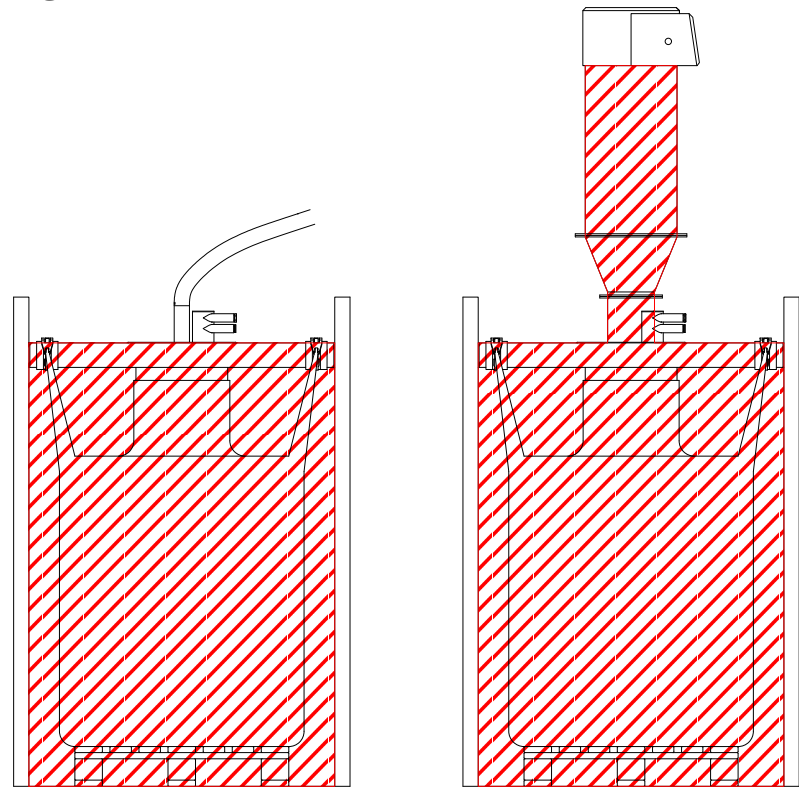

Figure 4 **Atex Zoning of Waste Big Bag**
Waste Big Bag systems that are Stand Alone are fitted with a single cartridge filter extract unit. To maintain optimum extract, the cartridge filter can be purge cleaned by pressing the push-button (3) shown above in Figure 4. It is recommended to purge clean after every change of big bag but can be done more or less frequently as required.